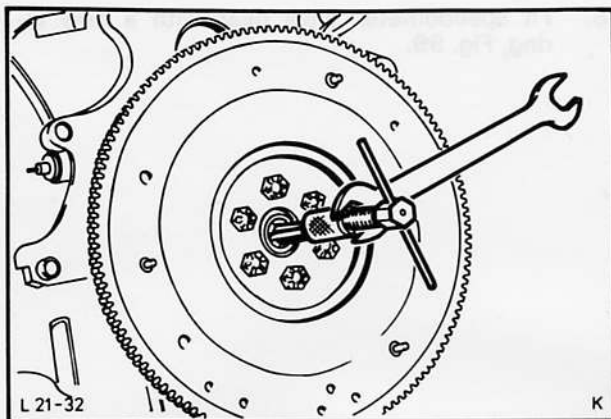

Fig. 102. Remove pilot bearing with Special Tool No. 21-036
1. Locate side arms of Special Tool No. 21-036 behind the pilot bearing and withdraw the bearing by tightening the nut, Fig. 102.